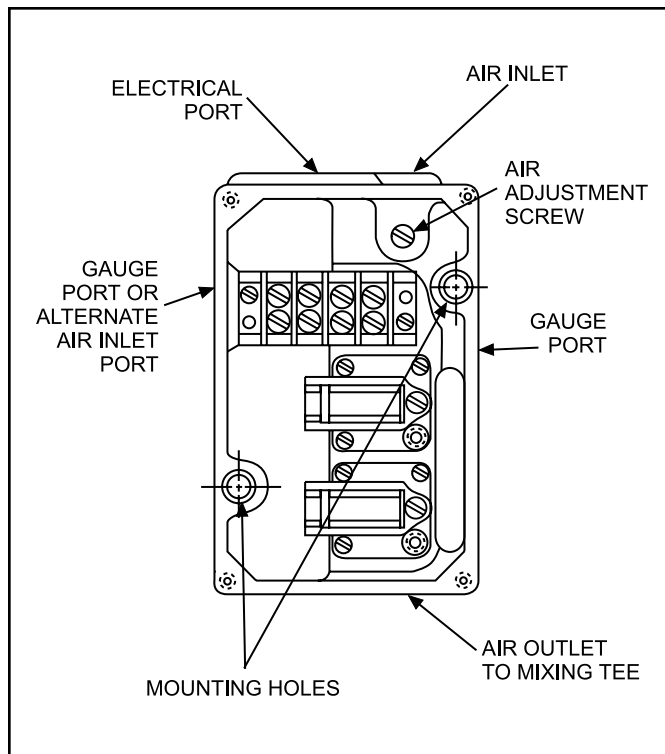

Figure 2-9. Air Flow Switch Installation
2.3.5.2 One air flow switch can monitor up to three nozzle assemblies. The switch should be positioned to keep the distance between the air flow switches and the nozzle assemblies to a minimum. Air flow switches are equipped with two 0.281 inch (7.14 mm) mounting holes. Remove the top cover to gain access to the mounting holes. Figure 2-9 shows the air flow switch with cover removed. The GAUGE port, located on the side of the unit, may be connected to a gauge to allow visual monitoring of the air pressure or as an alternate air inlet. This port is factory-shipped with an 1/8-27 NPT plug installed. Remove the plug to install a gauge. If this port is used as an alternate air inlet, plug the hole marked AIR INLET.